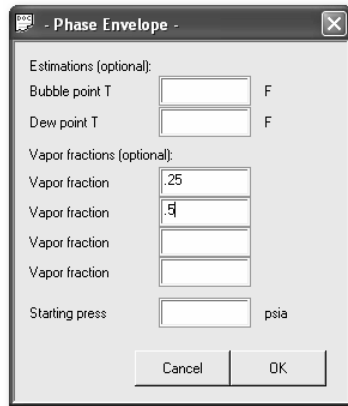

Figure 11-13: Plotting vapor fraction lines along with the cricondentherm dewpoint
2. No entries are required on this screen since you only need to look at the dewpoint line, but to make the plot more interesting, display the 0.25 and the 0.5 vapor fraction lines in addition to the normal phase envelope boundaries. Complete the dialog box as shown in Figure 11-13.